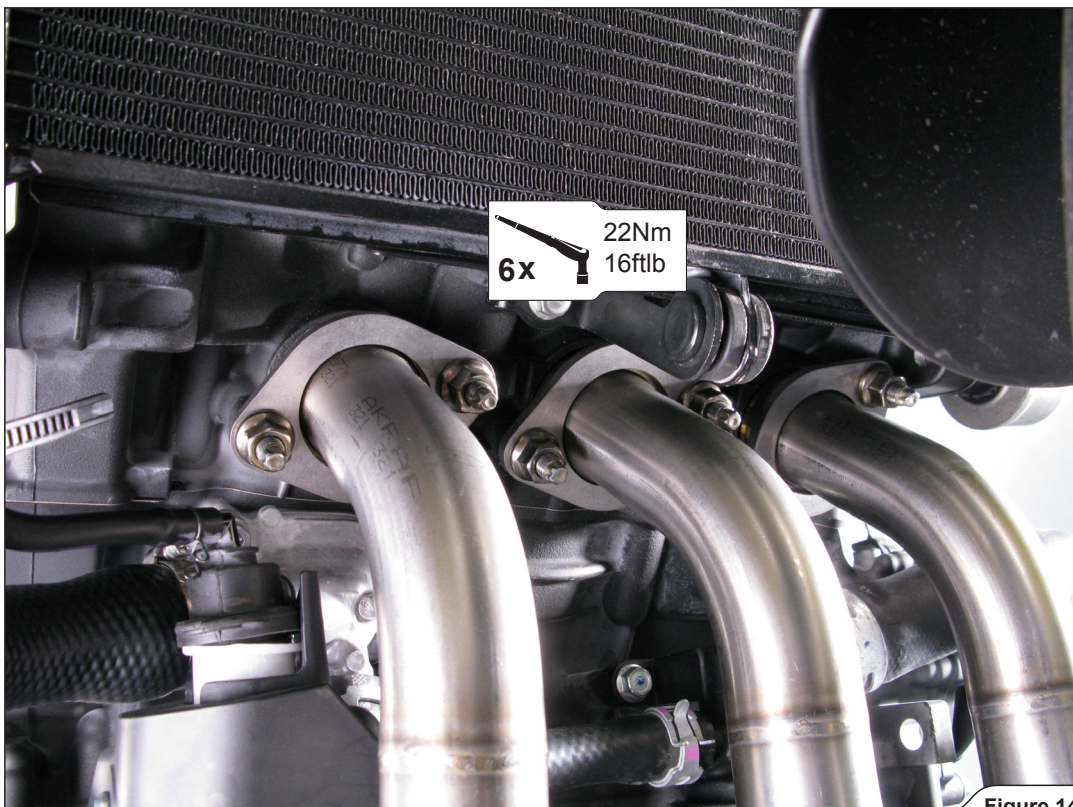

Figure 14
6. Tighten the header's flanges to specified torque (Figure 14).